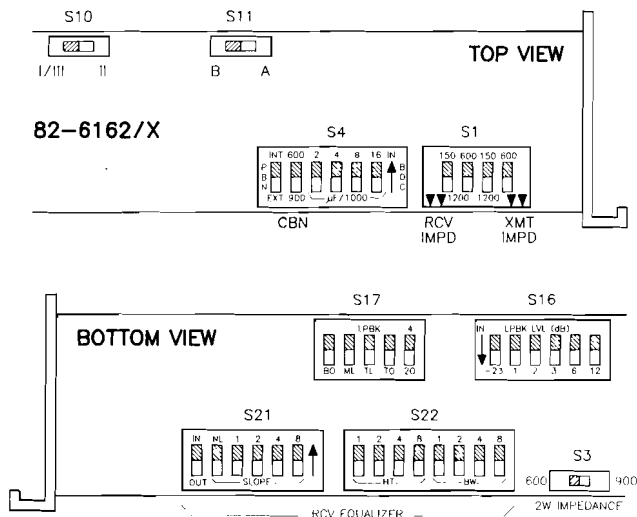

figure 1. Issue 2 6162/X option switch locations
1.03 When optioning the Issue 2 6162/X modules, please disregard figure 10 and the terminating-impedance optioning information in paragraph 3.07 and table 6 of the attached practice. Instead, refer to figure 1 of this addendum and set the *RCV IMPD* and *XMT IMPD* positions of S1 as follows:
1.05 When setting switch options on the Issue 2 6162/X modules (see figure 1 of this addendum), be certain to set the receive-equalizer bypass switch (*IN/OUT* position of the *SLOPE* DIP switch, S21) as follows before adjusting the equalizer: